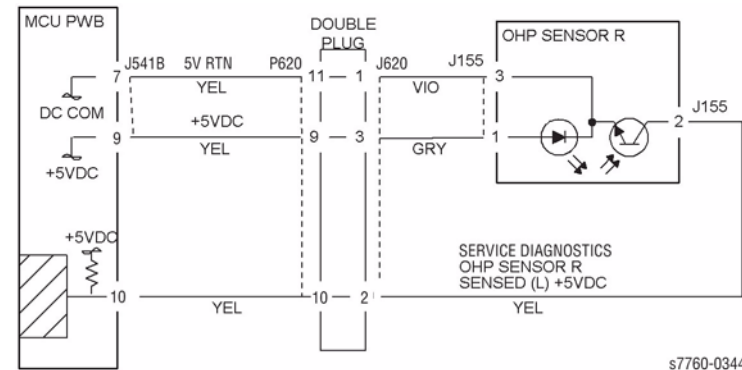

Figure 1 007-959 OHP Sensor R
Check the circuit of the OHP Sensor (Figure 1). Refer to Section 6, **Reflective Sensor Procedure** for troubleshooting procedure.
- Ensure that the connectors shown in the circuit diagram (Figure 1) are securely connected and that the wires are not damaged.